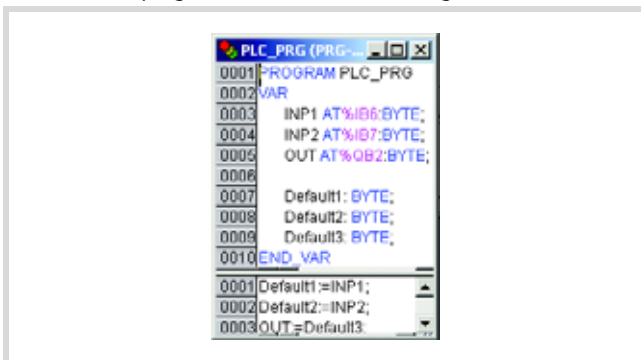

Figure 88: User program for XC200
- Create the program in accordance with Figure 88.